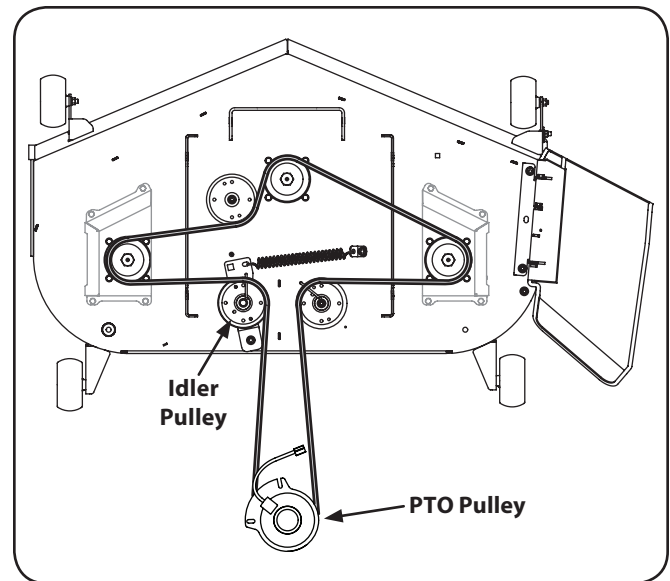

Figure 7-8
6. Route the belt as shown in Fig. 7-8. After routing the belt around the PTO pulley, use a $\frac{1}{2}$ " drive in the idler pulley bracket and turn towards the back of the tractor to finish routing the belt around the idler pulley.
4. Install the new belt around the spindle pulleys as shown in Fig. 7-8 and reinstall the belt covers.